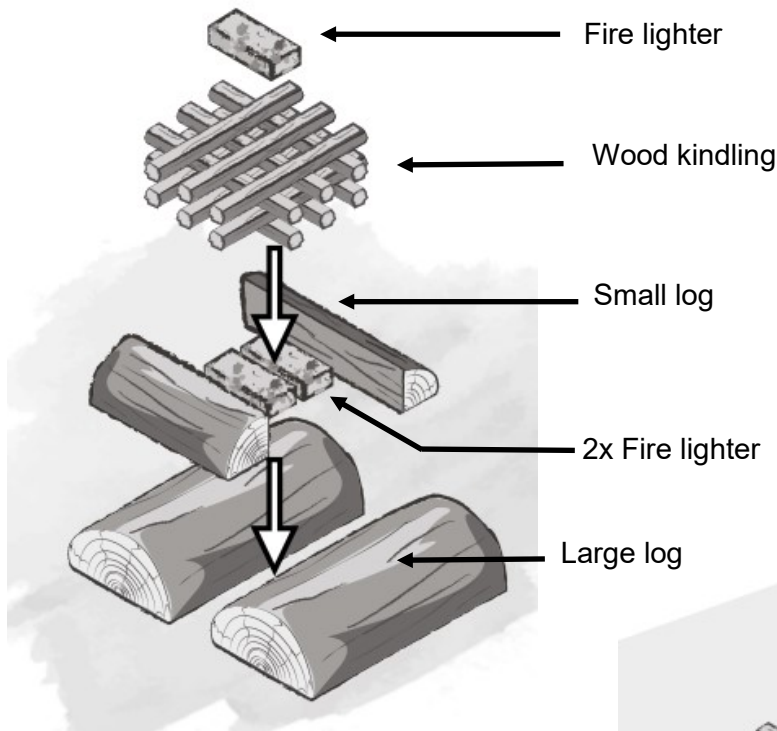

Fig. 5
- Using the 'Top Down Lighting Technique', begin to place 2x large logs (approx. 100mm in diameter) in the front to back position, within the base of the firebox. (See Fig. 5)